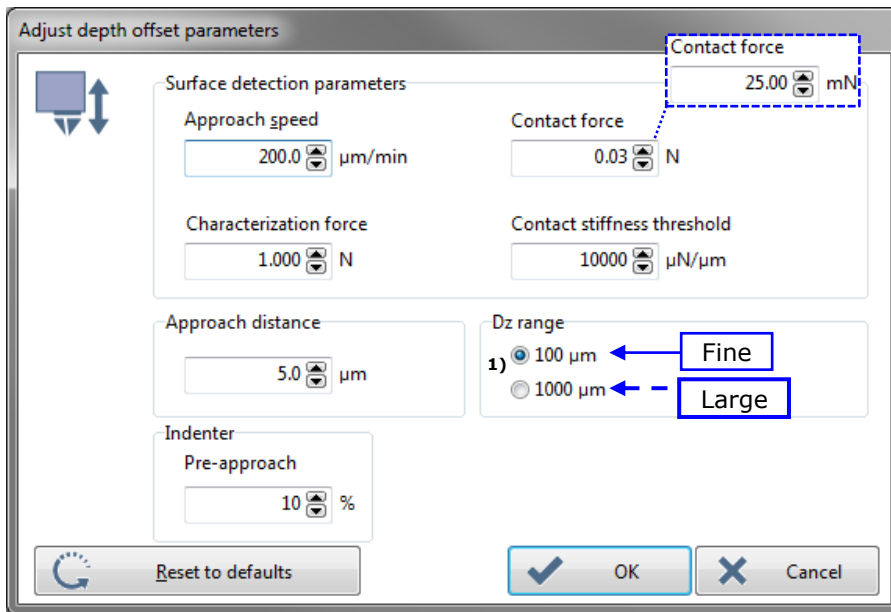

Fig.33 MHT ADO parameters window
E.g. parameters shown on Fig.33 are the default values which are normally suitable to perform a successful ADO.